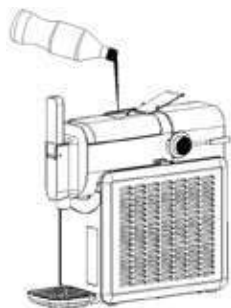
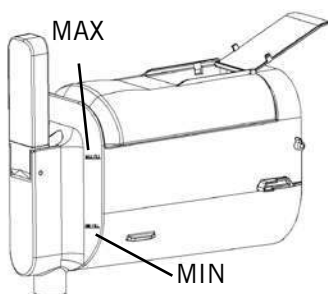

Fig. 5
Fig. 6
2. Open the lid of the mixing container and slowly pour in the required liquid (Fig. 5). Observe the Min and Max markings (Fig. 6). If you do not use enough liquid, it will not be mixed well. If the container is too full of liquid, it can overflow.